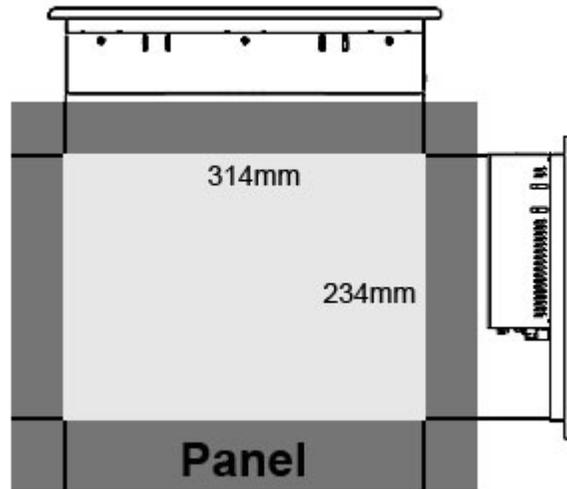

Figure 4-27: Suggested Panel Cut Out Size for PPC-3712A-N270
- Step 3:** Cut out a section from the panel that corresponds to the dimensions of the flat panel PC chassis. The panel section that is cut out must be smaller than the size of the aluminum frame that surrounds the 12.1" TFT LCD panel but just large enough for the chassis to fit through (**Figure 4-27**).